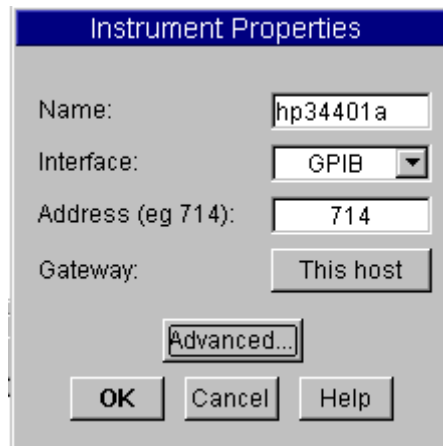

**Figure 5-4. Gateway Configuration**
**VEE Configuration.** Configure VEE for gateway access during device configuration, as described in Chapter 3, “Configuring Instruments”. Figure 5-4 shows the *Instrument Properties* dialog box. The *Gateway* field shows its default setting, *This host*: